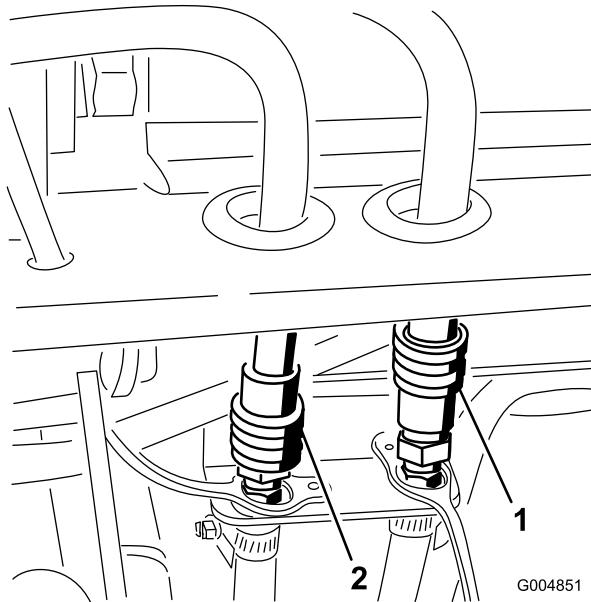

Figure 67
2. Connect the cab pressure and return heater hoses to the quick couplers on the rear frame mount (Figure 67).